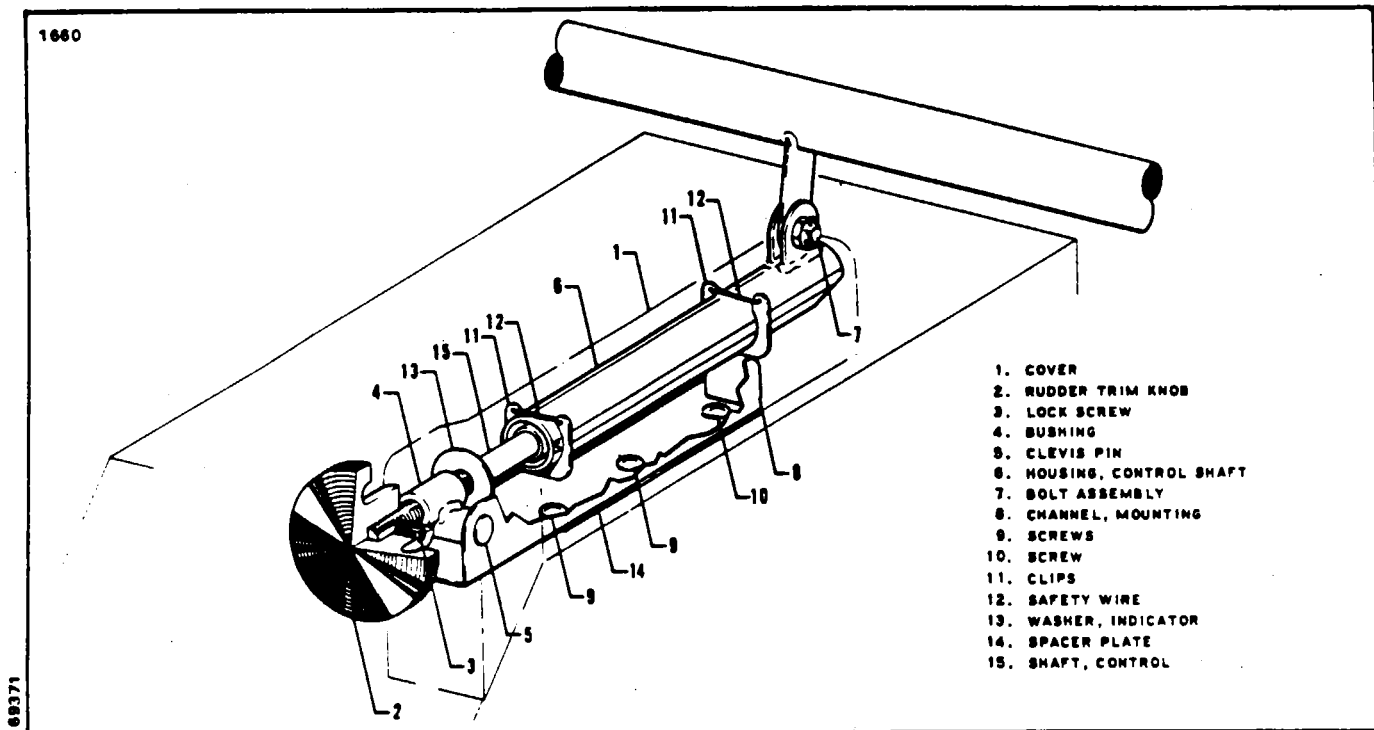

Figure 27-13. Rudder Trim Control
REMOVAL OF RUDDER TRIM CONTROLS. (Refer to Figure 27-13.)
INSTALLATION OF RUDDER TRIM CONTROLS. (Refer to Figure 27-13.)
5. Clamp the rudder pedals in neutral (refer to Chapter 32 for rudder pedal neutral position), and position the threaded bushing and shaft extension in the mounting channel and then install the clevis pin and cotter pin. Ascertain that dimensions noted in Figure 27-13 are maintained.